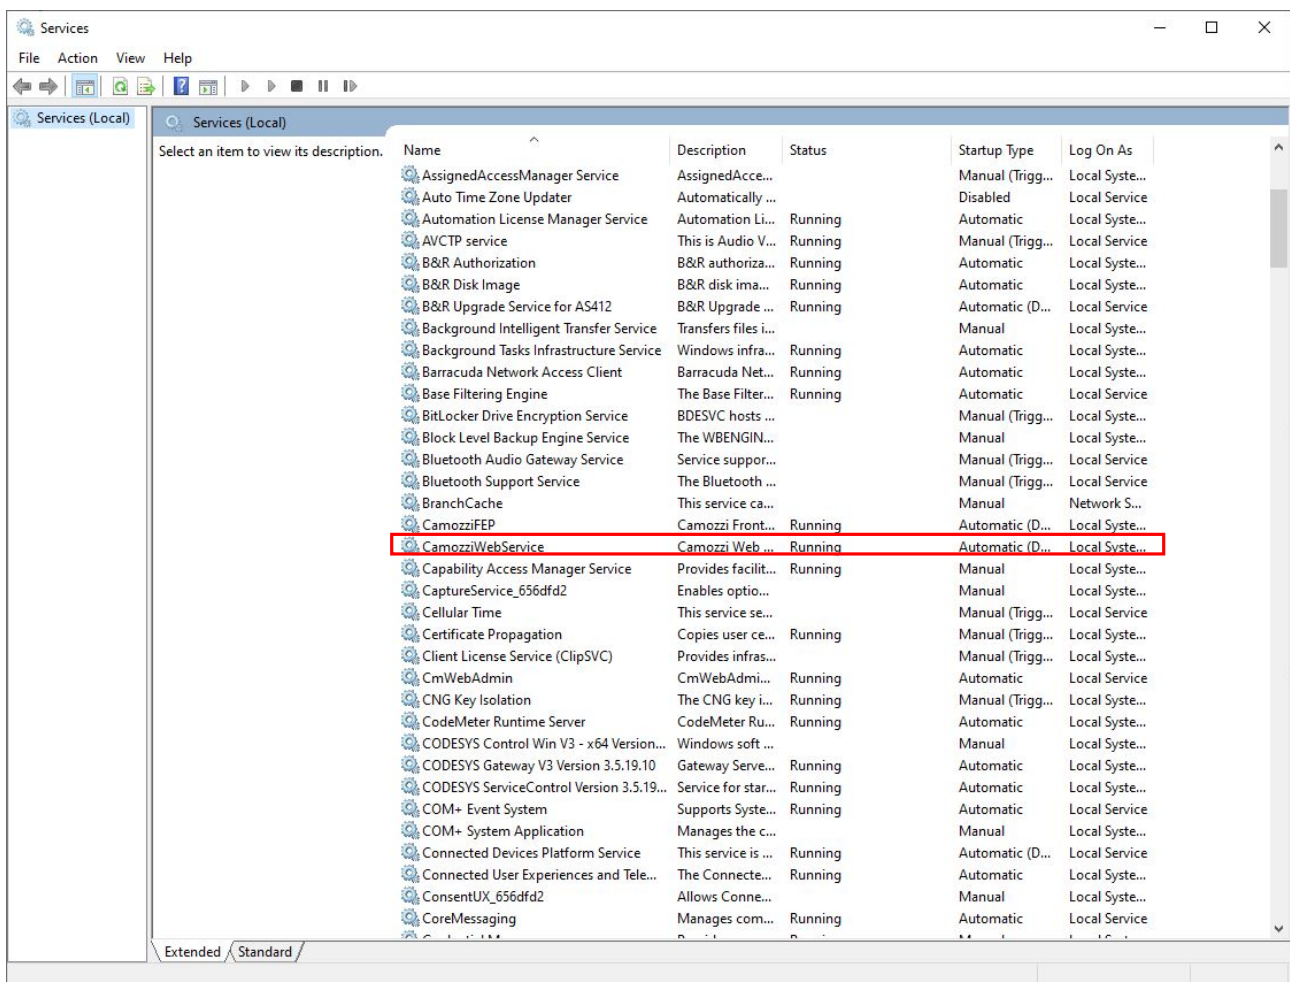

Figure 8.7: CamoziWebService Service
❶ Web Service: If the connection is not present, access the services window and verify that the "CamozziWebService" status is running (Figure 8.7).
- Unable to contact the login server: Access the services window and verify that the "CamoZZiWeb-Service" status is running, as shown in Figure 8.7.